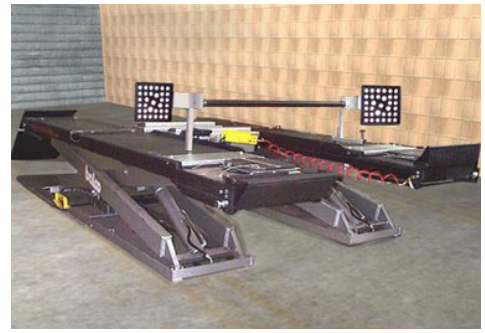

Figure 3-88
16. Move the cal bar back on the rack approximately 2 feet on the rack. (Figure 3-88) Click on **<OK>** when done.